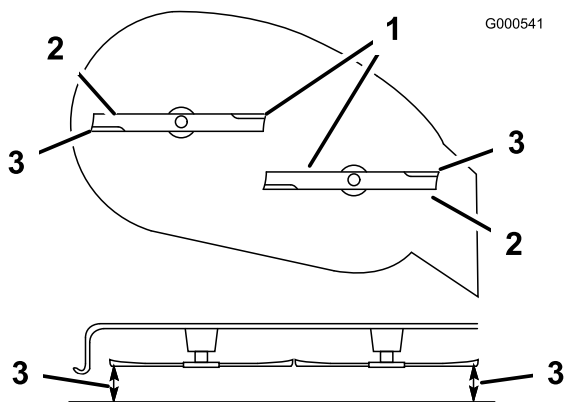

Figure 39
5. Carefully rotate the blade(s) side to side (Figure 39).
6. Measure between the outside cutting edges and the flat surface (Figure 39). If both measurements are not within 3/16 inch (5 mm), an adjustment is required; continue with this procedure.